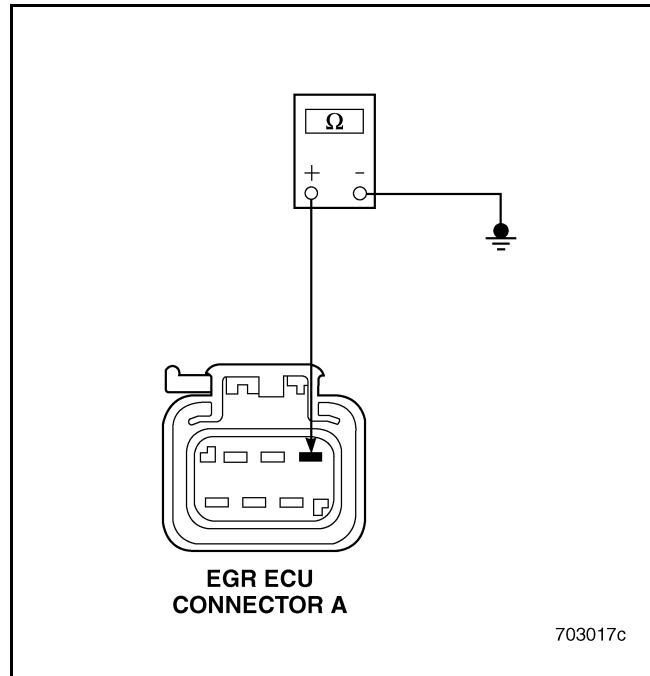

Figure 592
3. Measure the resistance between EGR ECU connector A pin 1 and a known good ground (see Figure 592).